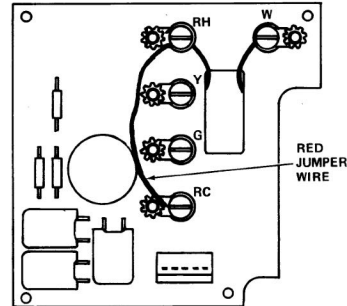
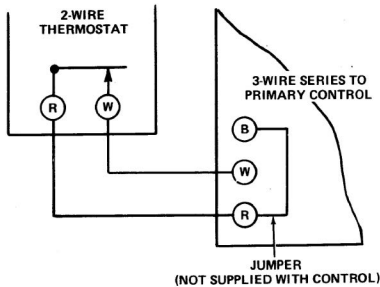

Fig. 14
Fig. 15
For 2-wire heating only refer to figure 14. For 3-wire Series 10 heating refer to figure 15. For 5-wire Heating/Cooling refer to figures 14 and 17. For 4-wire Heating/Cooling refer to figure 16.
1. Attach the two wires that were connected to the thermostat you removed to terminals "W" and "RH" on the Wall Plate (Fig. 14).
To use new thermostat as replacement thermostat for Series 10 three wire heating system, add jumper between R and B on primary control and wire as per Fig 15.
1. Remove and discard the red jumper wire that connects terminals "RH" and "RC" (Fig. 14) on Wall Plate.